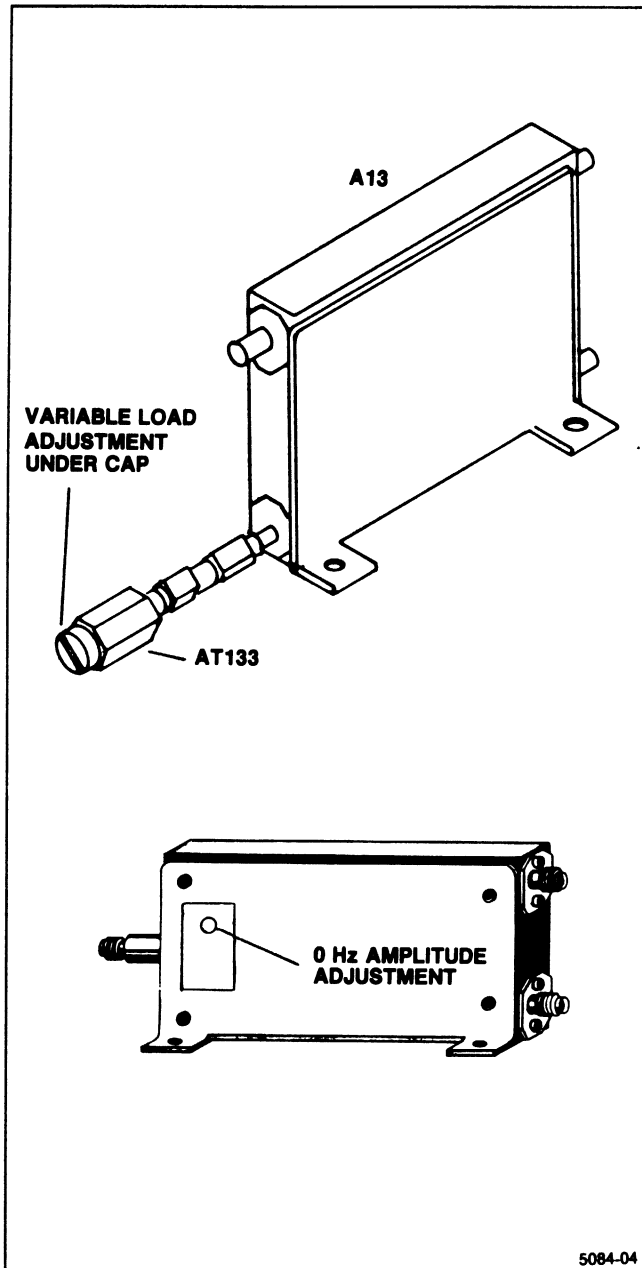

Figure 6-9. Adjustment locations for 0 Hz response.
d. An adjustment screw for the 0 Hz response is accessed by inserting a small screwdriver into the access hole on the Dual Diode assembly in the 1st Mixer. See Figure 6-9.